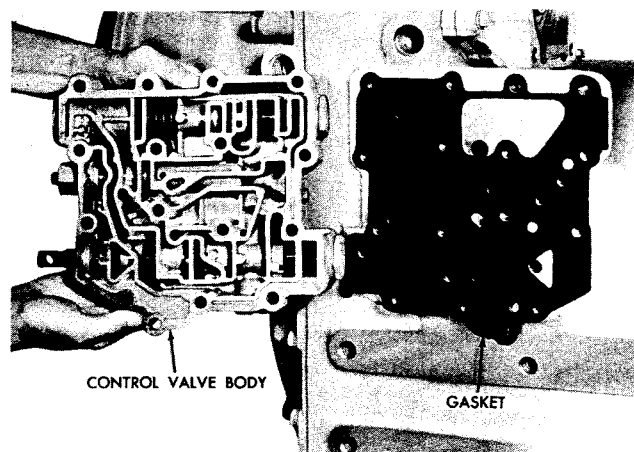

Fig. V-8. Removing valve body and gasket
(2) Remove the valve body assembly and gasket (fig. V-8).